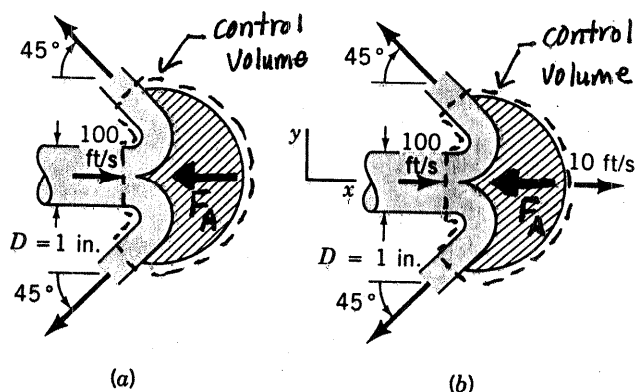

FIGURE P5.66
5.66 A Pelton wheel vane directs a horizontal, circular cross-sectional jet of water symmetrically as indicated in Fig. P5.66 and Video V5.4. The jet leaves the nozzle with a velocity of 100 ft/s. Determine the x direction component of anchoring force required to (a) hold the vane stationary, (b) confine the speed of the vane to a value of 10 ft/s to the right. The fluid speed magnitude remains constant along the vane surface.